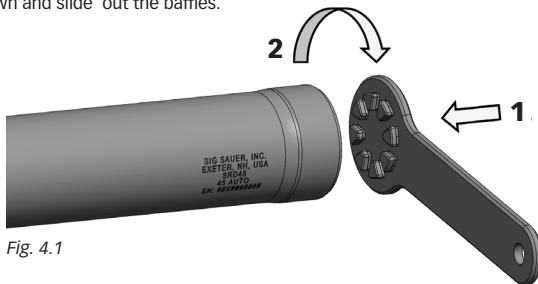

Fig. 4.1
- c. Using the polymer tool provided, remove the front cap from the suppressor (see Fig 4.1).